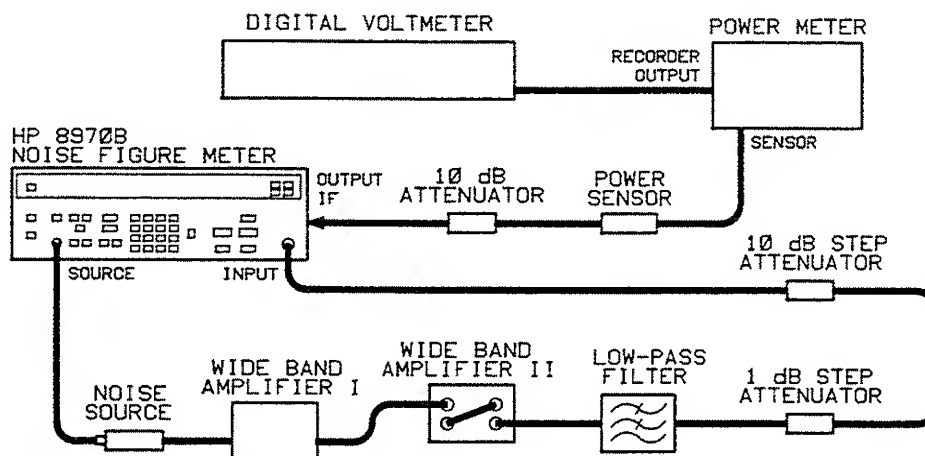

Figure 4-3. IF Attenuator Calibration Setup
4. Set the 10 dB step attenuator to 70 dB and connect the equipment as shown in Figure 4-3.